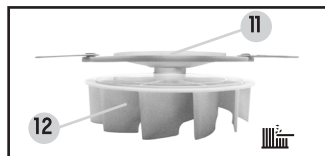
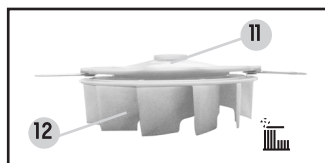

Fig. 6
Fig. 7
- 1 There are 2 cutting heights. (Fig 6) shows the lower cutting height setting, 10 mm. (Fig 7) shows the higher cutting height setting, 33 mm. The blade is pre-set to the 33 mm cutting height in the factory.
A higher cut height (Fig 7) should generally be selected for the first cut of the season. When cutting longer grass, cut the grass in 2 or more passes, first on the higher cutting setting then on the lower cutting setting. These techniques will help to avoid over-stressing your grass.